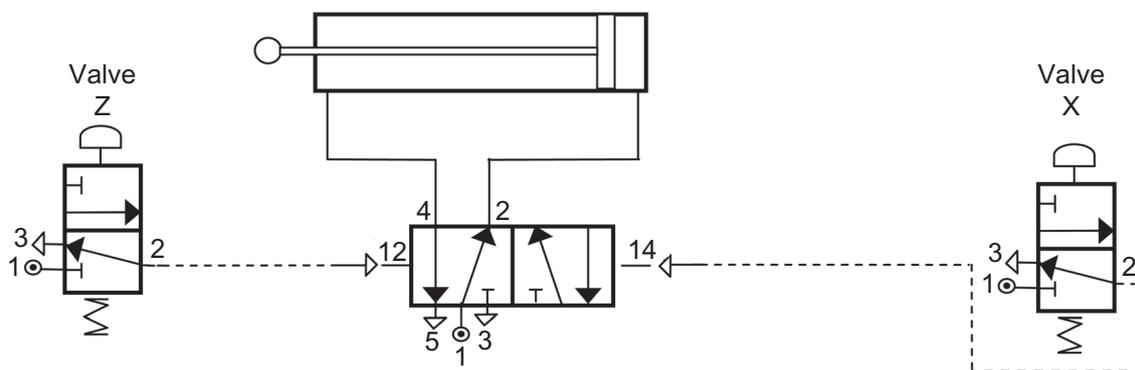

Fig. 4(b)(i)
- (b) (i) Calculate the work done by the cylinder in Fig. 4(b)(i) below if the force required to push the cylinder positive is 1800 N and the distance moved by the force is 400 mm. [2]
- (ii) With reference to Table 1 and Fig. 4(b)(ii) select an appropriate piston rod size, cylinder size and air pressure in order to produce the maximum force during the instroke of the cylinder. Then select an appropriate piston rod size, cylinder size and air pressure in order to produce the minimum force during the instroke of the cylinder. In each case calculate the maximum and minimum forces for the values you have chosen from Table 1. [4]